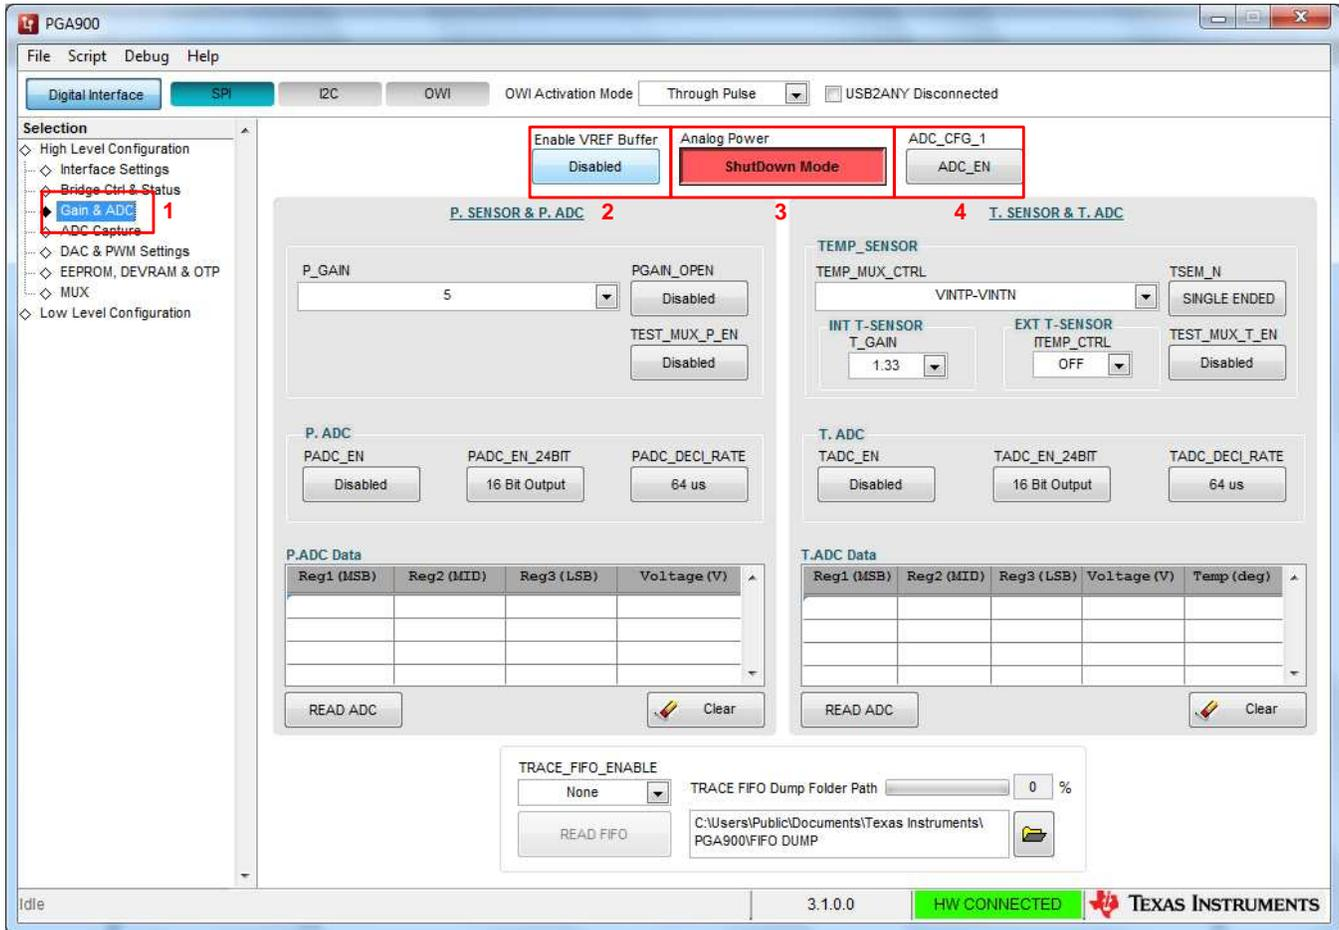

Figure 4. Enabling the Analog Power in PGA900
2. Enable the VREF buffer, disable the analog shutdown and enable the ADCs as shown in Figure 4